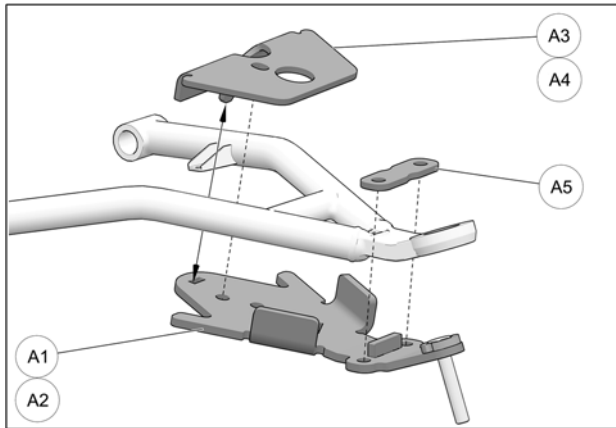

Fig. 14
- Position bottom part of anchor bracket (**A1-A2**) assembly under front lower suspension arm, as shown in the figure below. Position bracket covers (**A3-A4-A5**) over suspension arm and align holes in covers and bottom part. See Fig. 14